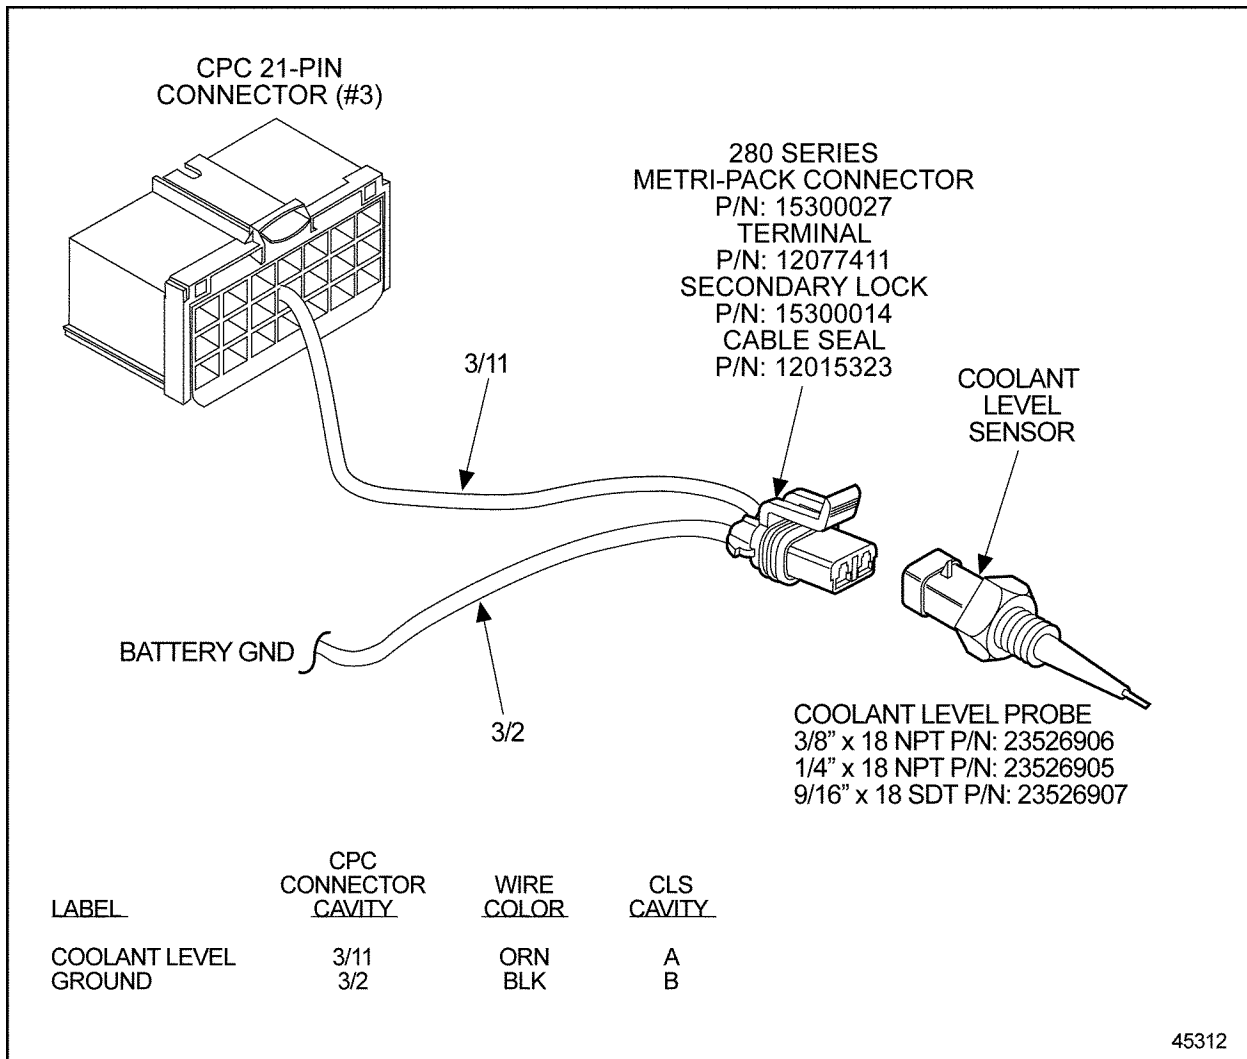

Figure 30-4 Engine Coolant Level Sensor Installation for CPC
3. Disconnect the ECL Sensor. See Figure 30-4.